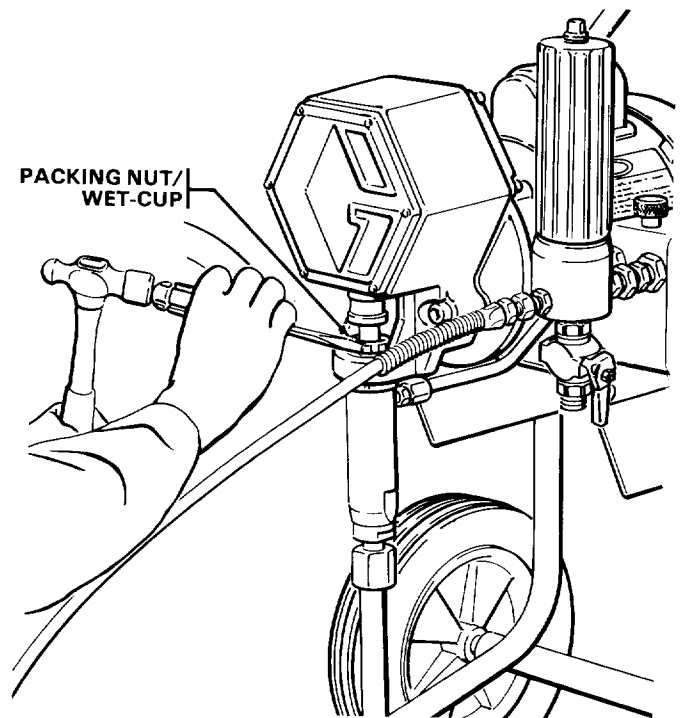

Fig 8
1. **Check the packing nut/wet-cup daily.** First follow the Pressure Relief Procedure Warning on page 10. Be sure the wet-cup is 1/3 full of TSL at all times to help prevent material build up on the piston rod and premature wear of packings. The packing nut should be tight enough to stop leakage, but no tighter. Overtightening may cause binding and excessive packing wear. Use a screwdriver and light hammer to adjust the nut. See Fig 8.